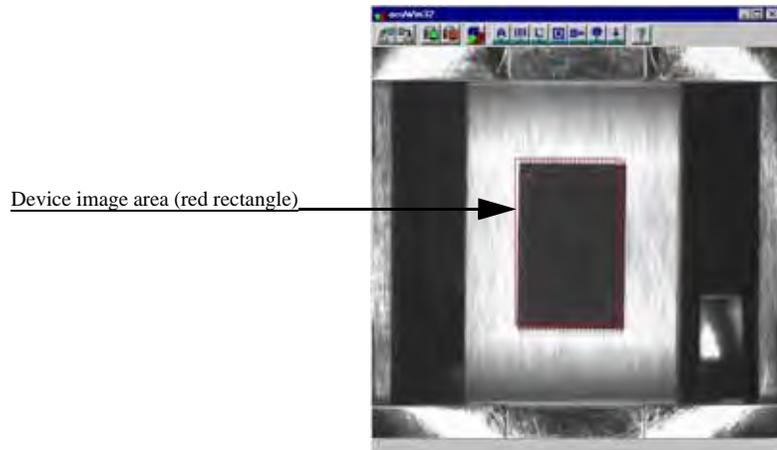

Figure 3-40—Device image area (red rectangle) matches the device
- 8b) In the acuWin32 window, size the device image area (red rectangle) so that it matches the edges of the device. In Figure 3-40, the device image area is offset slightly from the device for clarity. In actuality, the device image area needs to match the device exactly.